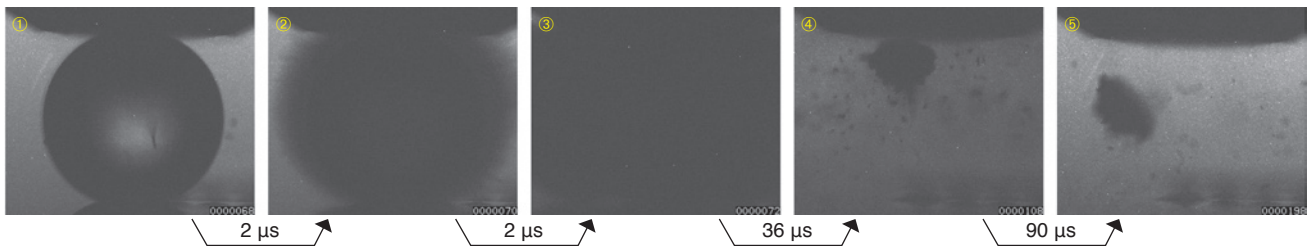
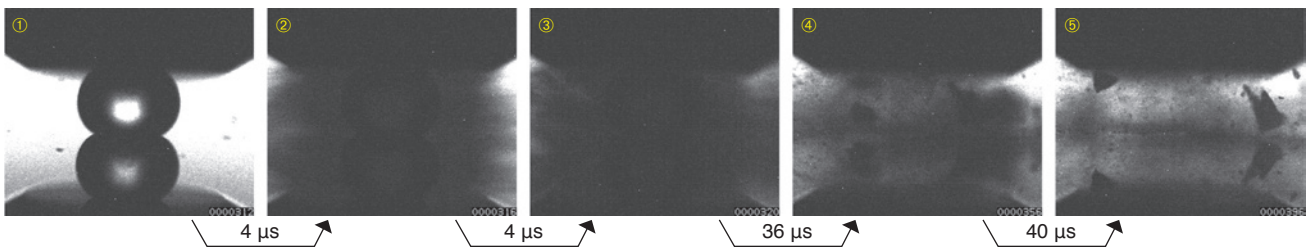

Fig. 3 Fragmentation of the Glass Bead (Frame Rate 500,000 fps)
Fig. 4 Fragmentation of the Plastic Bead (Frame Rate 250,000 fps)
Fig. 3 (glass bead) and Fig. 4 (plastic bead) show some of the continuous images captured by the high-speed video camera of the instant that each specimen is destroyed. The numbers (1) to (3) in each photo are of the image feed one frame at a time and are continuous images at the respective image capture speed.